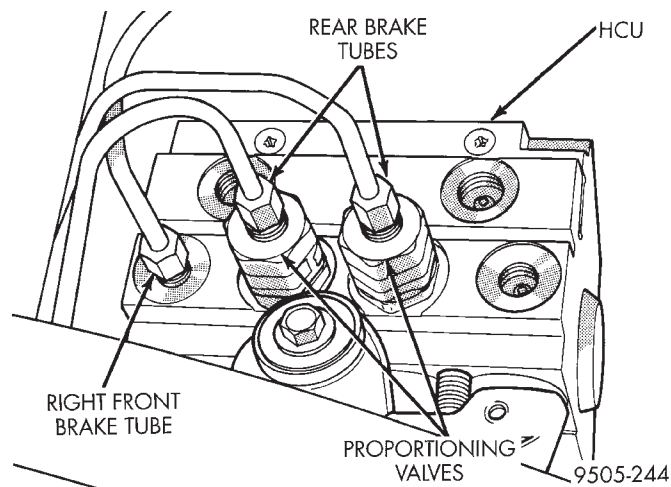

Fig. 20 Rear Brake Tubes And Right Front Brake Tube At HCU
(11) Remove the 2 rear brake tubes from the proportioning valves and the right front brake tube from the outlet port of the HCU (Fig. 20).
(4) Then tighten the 3 HCU mounting bolts to a torque of 28 N·m (248 in. lbs.).
(5) Install the 2 rear brake tubes on the proportioning valves and the right front brake tube in the outlet port of the HCU (Fig. 20). Tighten the 3 brake tube nuts to a torque of 20 N·m (180 in. lbs.).